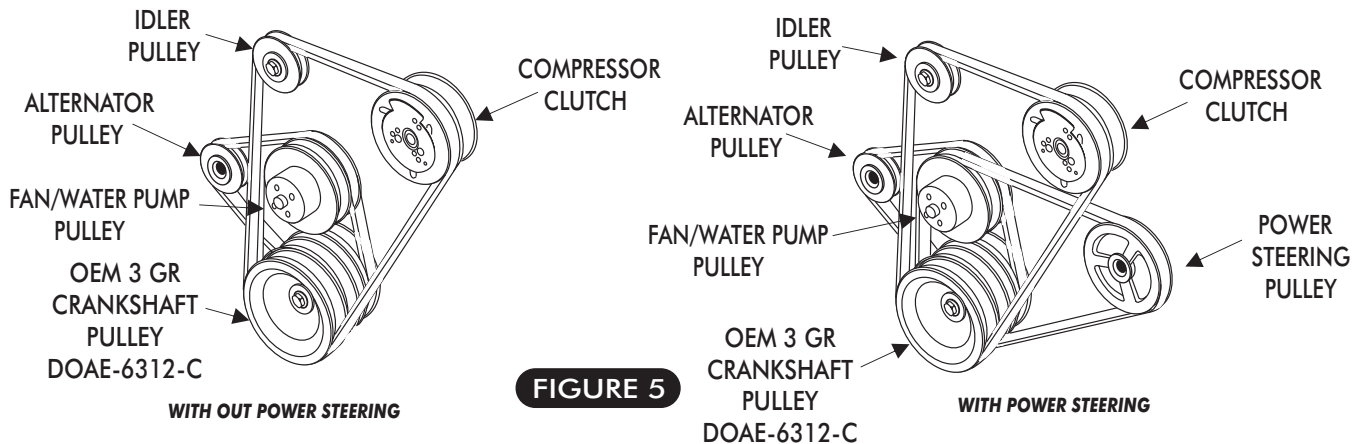

FIGURE 5
- 9. INSTALL BELTS AS SHOWN IN **FIGURE 5 BELOW**. ADJUST TO PROPER TENSION AND TIGHTEN ALL BOLTS. A/C BELT 1/2 x 56 DAYCO BELT